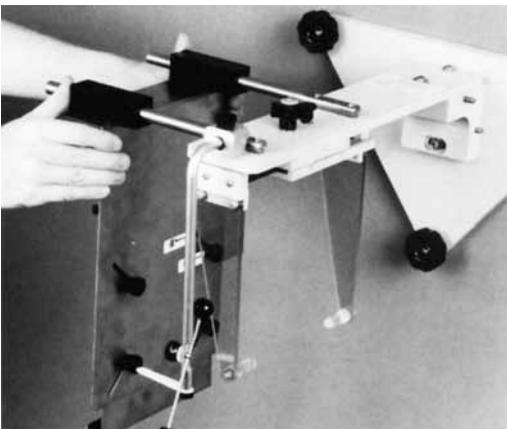

Figure 14
6. Slide the cassette carrier assembly onto the rods, **being sure the cassette stop faces the wall plate.** Slide it forward until the black travel blocks touch the support bar (Figure 14). Tighten all four screws securely.